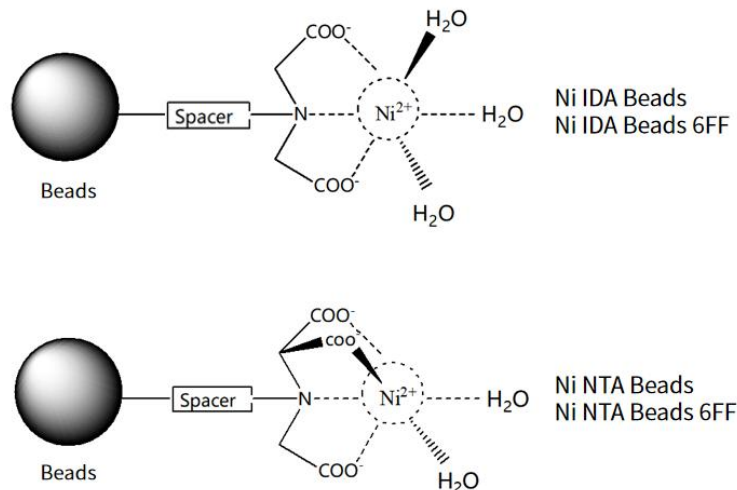

Fig.1. The chemical structures of Ni IDA Beads, Ni NTA Beads and Ni NTA Beads 6FF
**Ni NTA Beads 6FF** is based on a highly cross-linked 6% agarose with the same ligand as Ni NTA Beads (See Fig 1.), see table 1. In addition to being able to tolerate harsh reagent conditions (see Table 2), **Ni NTA Beads 6FF** is more stable due to its pressure-resistant matrix, which can withstand pressures up to 0.3 MPa, making the product is more suitable for industrial large-scale protein purification, which can be achieved at relatively high flow rates for the purification of target proteins.